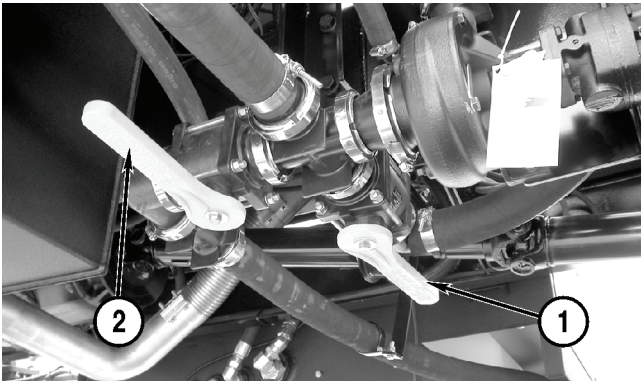

Figure 4-38
2. Close the product valve (**Figure 4-38, 1**).
3. Open the rinse tank valve (**Figure 4-38, 2**).